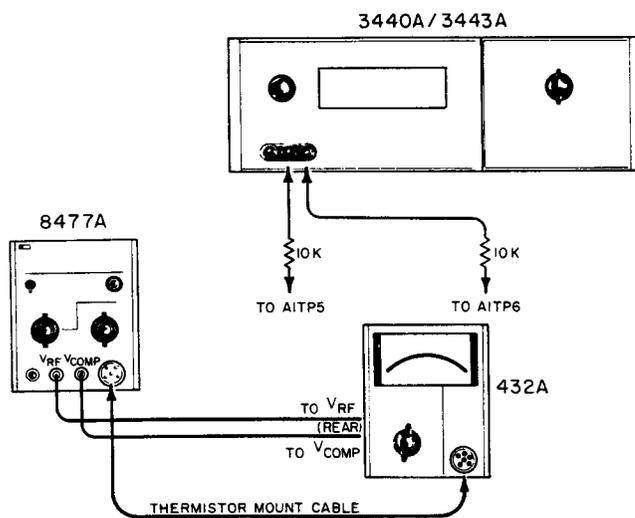

Figure 5-3. Bridge Amplifier Test
- a. Connect equipment as shown in Figure 5-3.
- (1) Connect 3440A/3443A between A1TP5 and A1TP6 (using 10K isolation resistors).
- (2) Make the following settings: